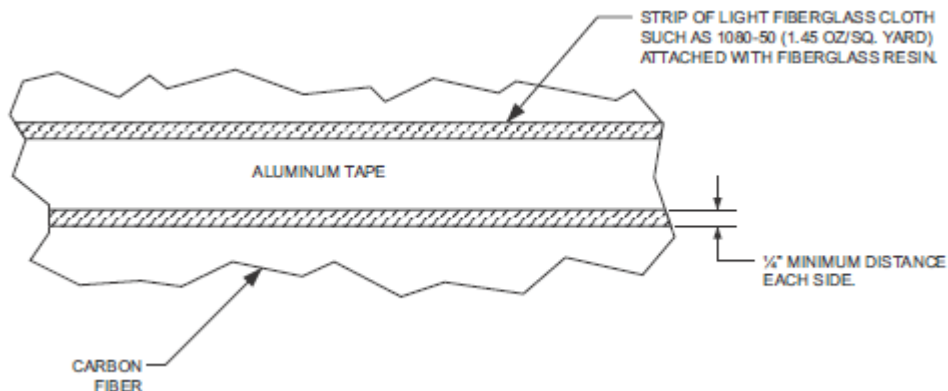

Figure 4-49 Fiberglass Insulation for Carbon Fiber Material
3. If the tape will come in contact with carbon composite material, the tape must be electrically isolated from the carbon composite material to prevent corrosion due to dissimilar materials. Secure a thin layer of fiberglass cloth to the carbon fiber with fiberglass resin as shown in Figure 4-49.